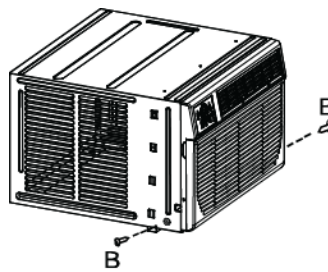

Figure 2
3. Remove front panel by removing 1 Phillips screw from each side of the front panel. Set screws aside and save. (Figure 2)
4. Trim the weather seal with a proper length peel off protective backing and plug any gaps if needed as shown in Figure 2.